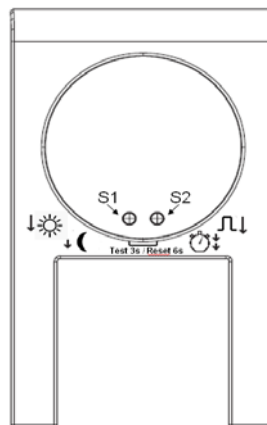

Figure 2: Position of display and operating elements on the sensor side of the motion detector
- 2 buttons (S1 and S2, see figure 2): for local setting of operating mode, brightness switching threshold and after-run time of the motion detector, independent of the bus
If test mode is re-activated, then this can be triggered by holding down S1 and S2 simultaneously for at least 3 seconds (max. 5 seconds). The LED also flashes quickly for 3 seconds and then stays ON. If you now release the buttons, then test mode is confirmed by the LED flashing twice. Test mode can be interrupted prematurely by tapping S1 or S2 (see figure 2).